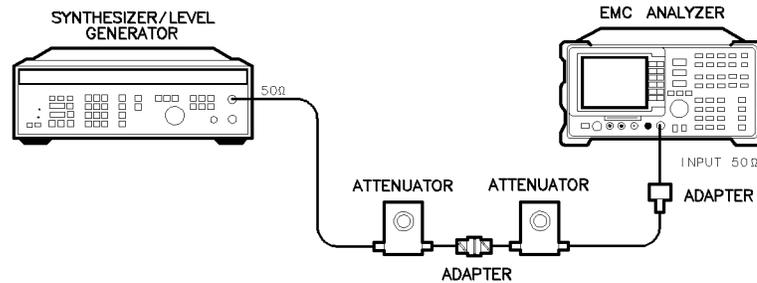

Figure 2-18.
2. Connect the equipment as shown in Figure 2-18. Set the 10 dB step attenuator to 10 dB attenuation and the 1 dB step attenuator to 0 dB attenuation.